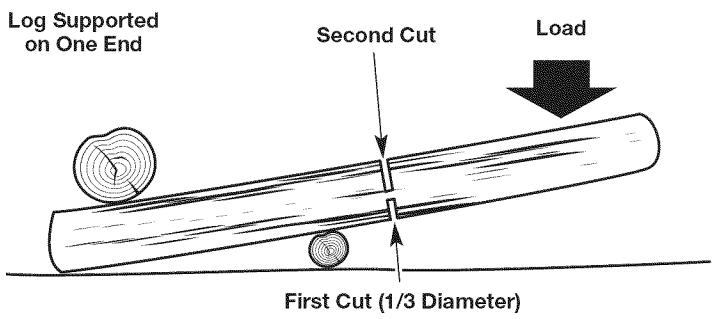

Fig. 17
- If the log is supported on one end (Fig. 17), make the first cut from below (*Underbuckling*). Refer to *Underbuckling*.